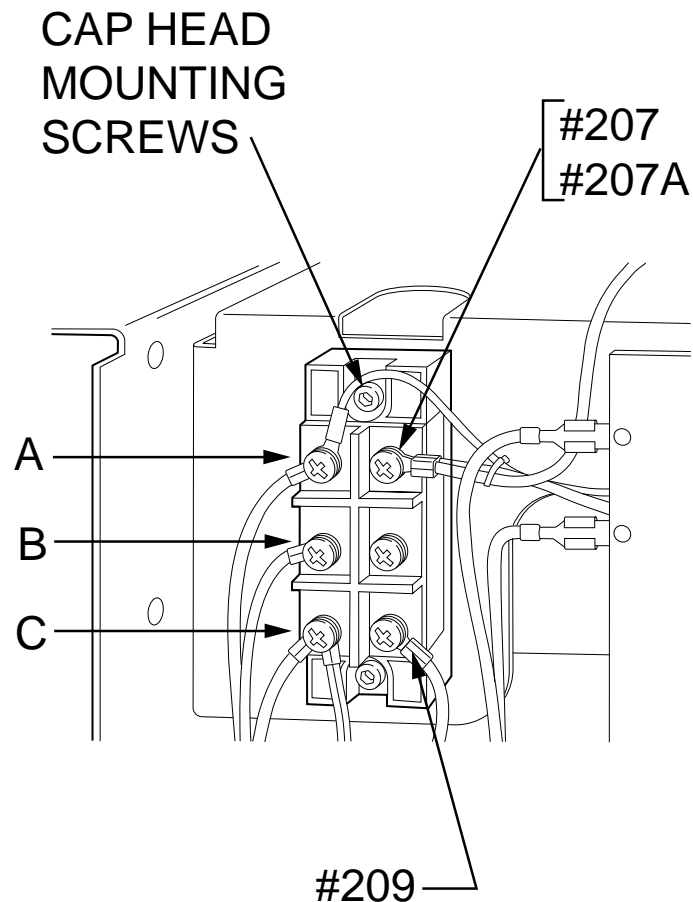

Figure F.16 Input Rectifier Lead Locations
3. Locate the input rectifier and the leads connected to it. See Figure F.16.